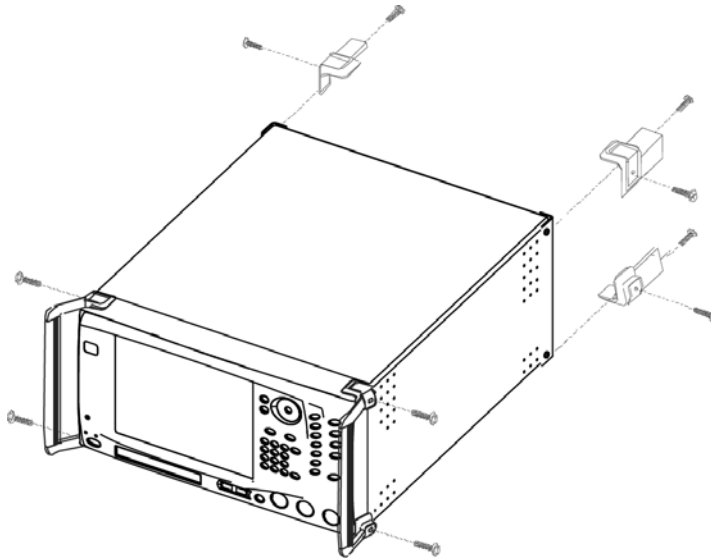

Figure 2-1. Instrument Handles and Feet Removal Diagram
3. Using a Phillips screwdriver, remove the two front panel handles and the four feet at the rear (see Figure 2-1). Save the screws for later use.